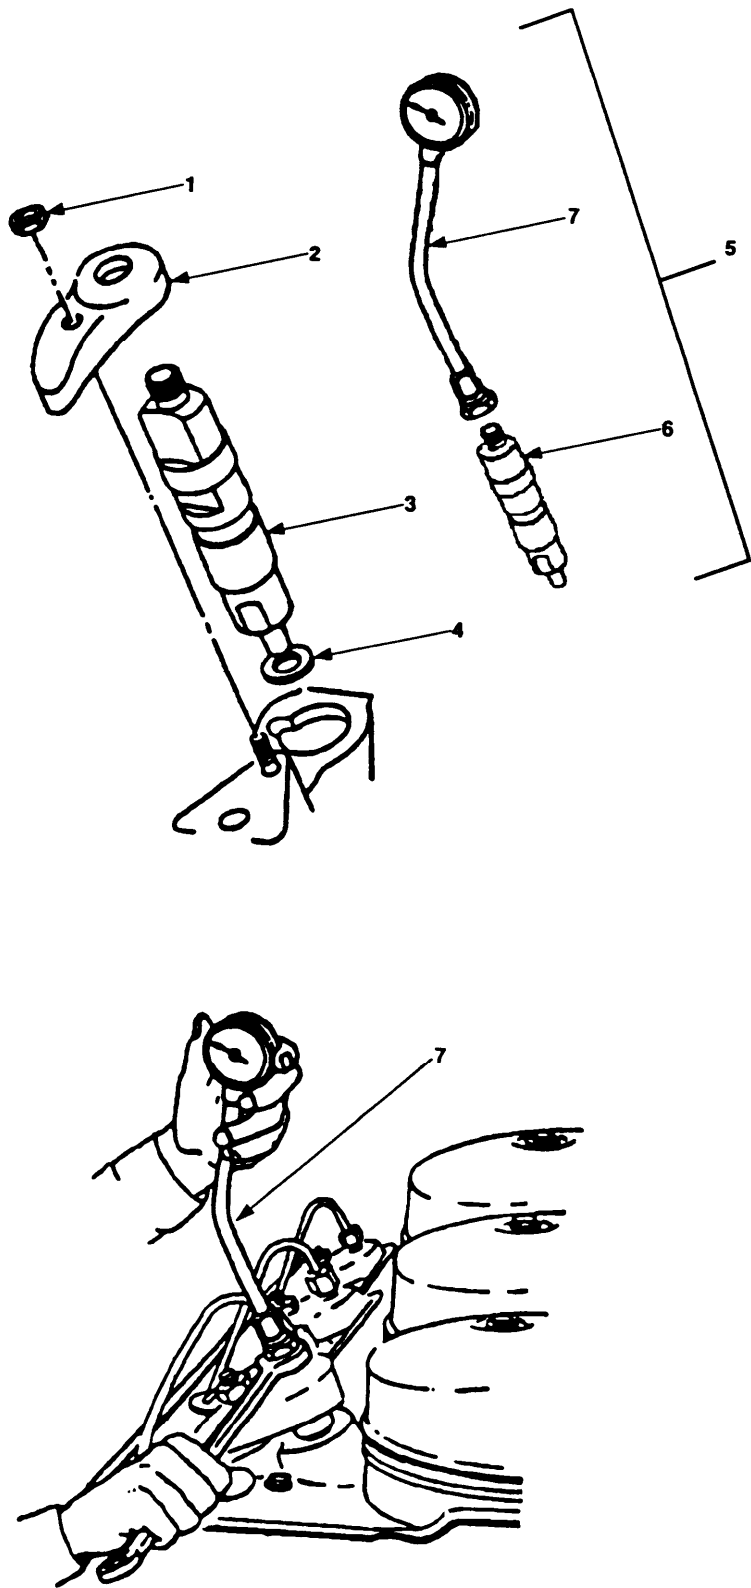

Figure 5-3. Compression Gauge Installation.
- (1) Remove nut (figure 5-3, 1) and injection nozzle yoke (2).
- (2) Remove injection nozzle (3).
- (3) Using nozzle puller, remove injection nozzle washer (4) from cylinder and discard.